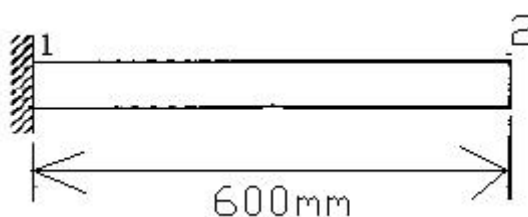

Fig. 7
8. Determine the lowest Eigen value and corresponding mode for the beam shown in the Fig.7. Take $E = 200$ GPa, $\rho = 7840$ kg/m³, $I = 2000$ mm⁴, $A = 240$ mm².